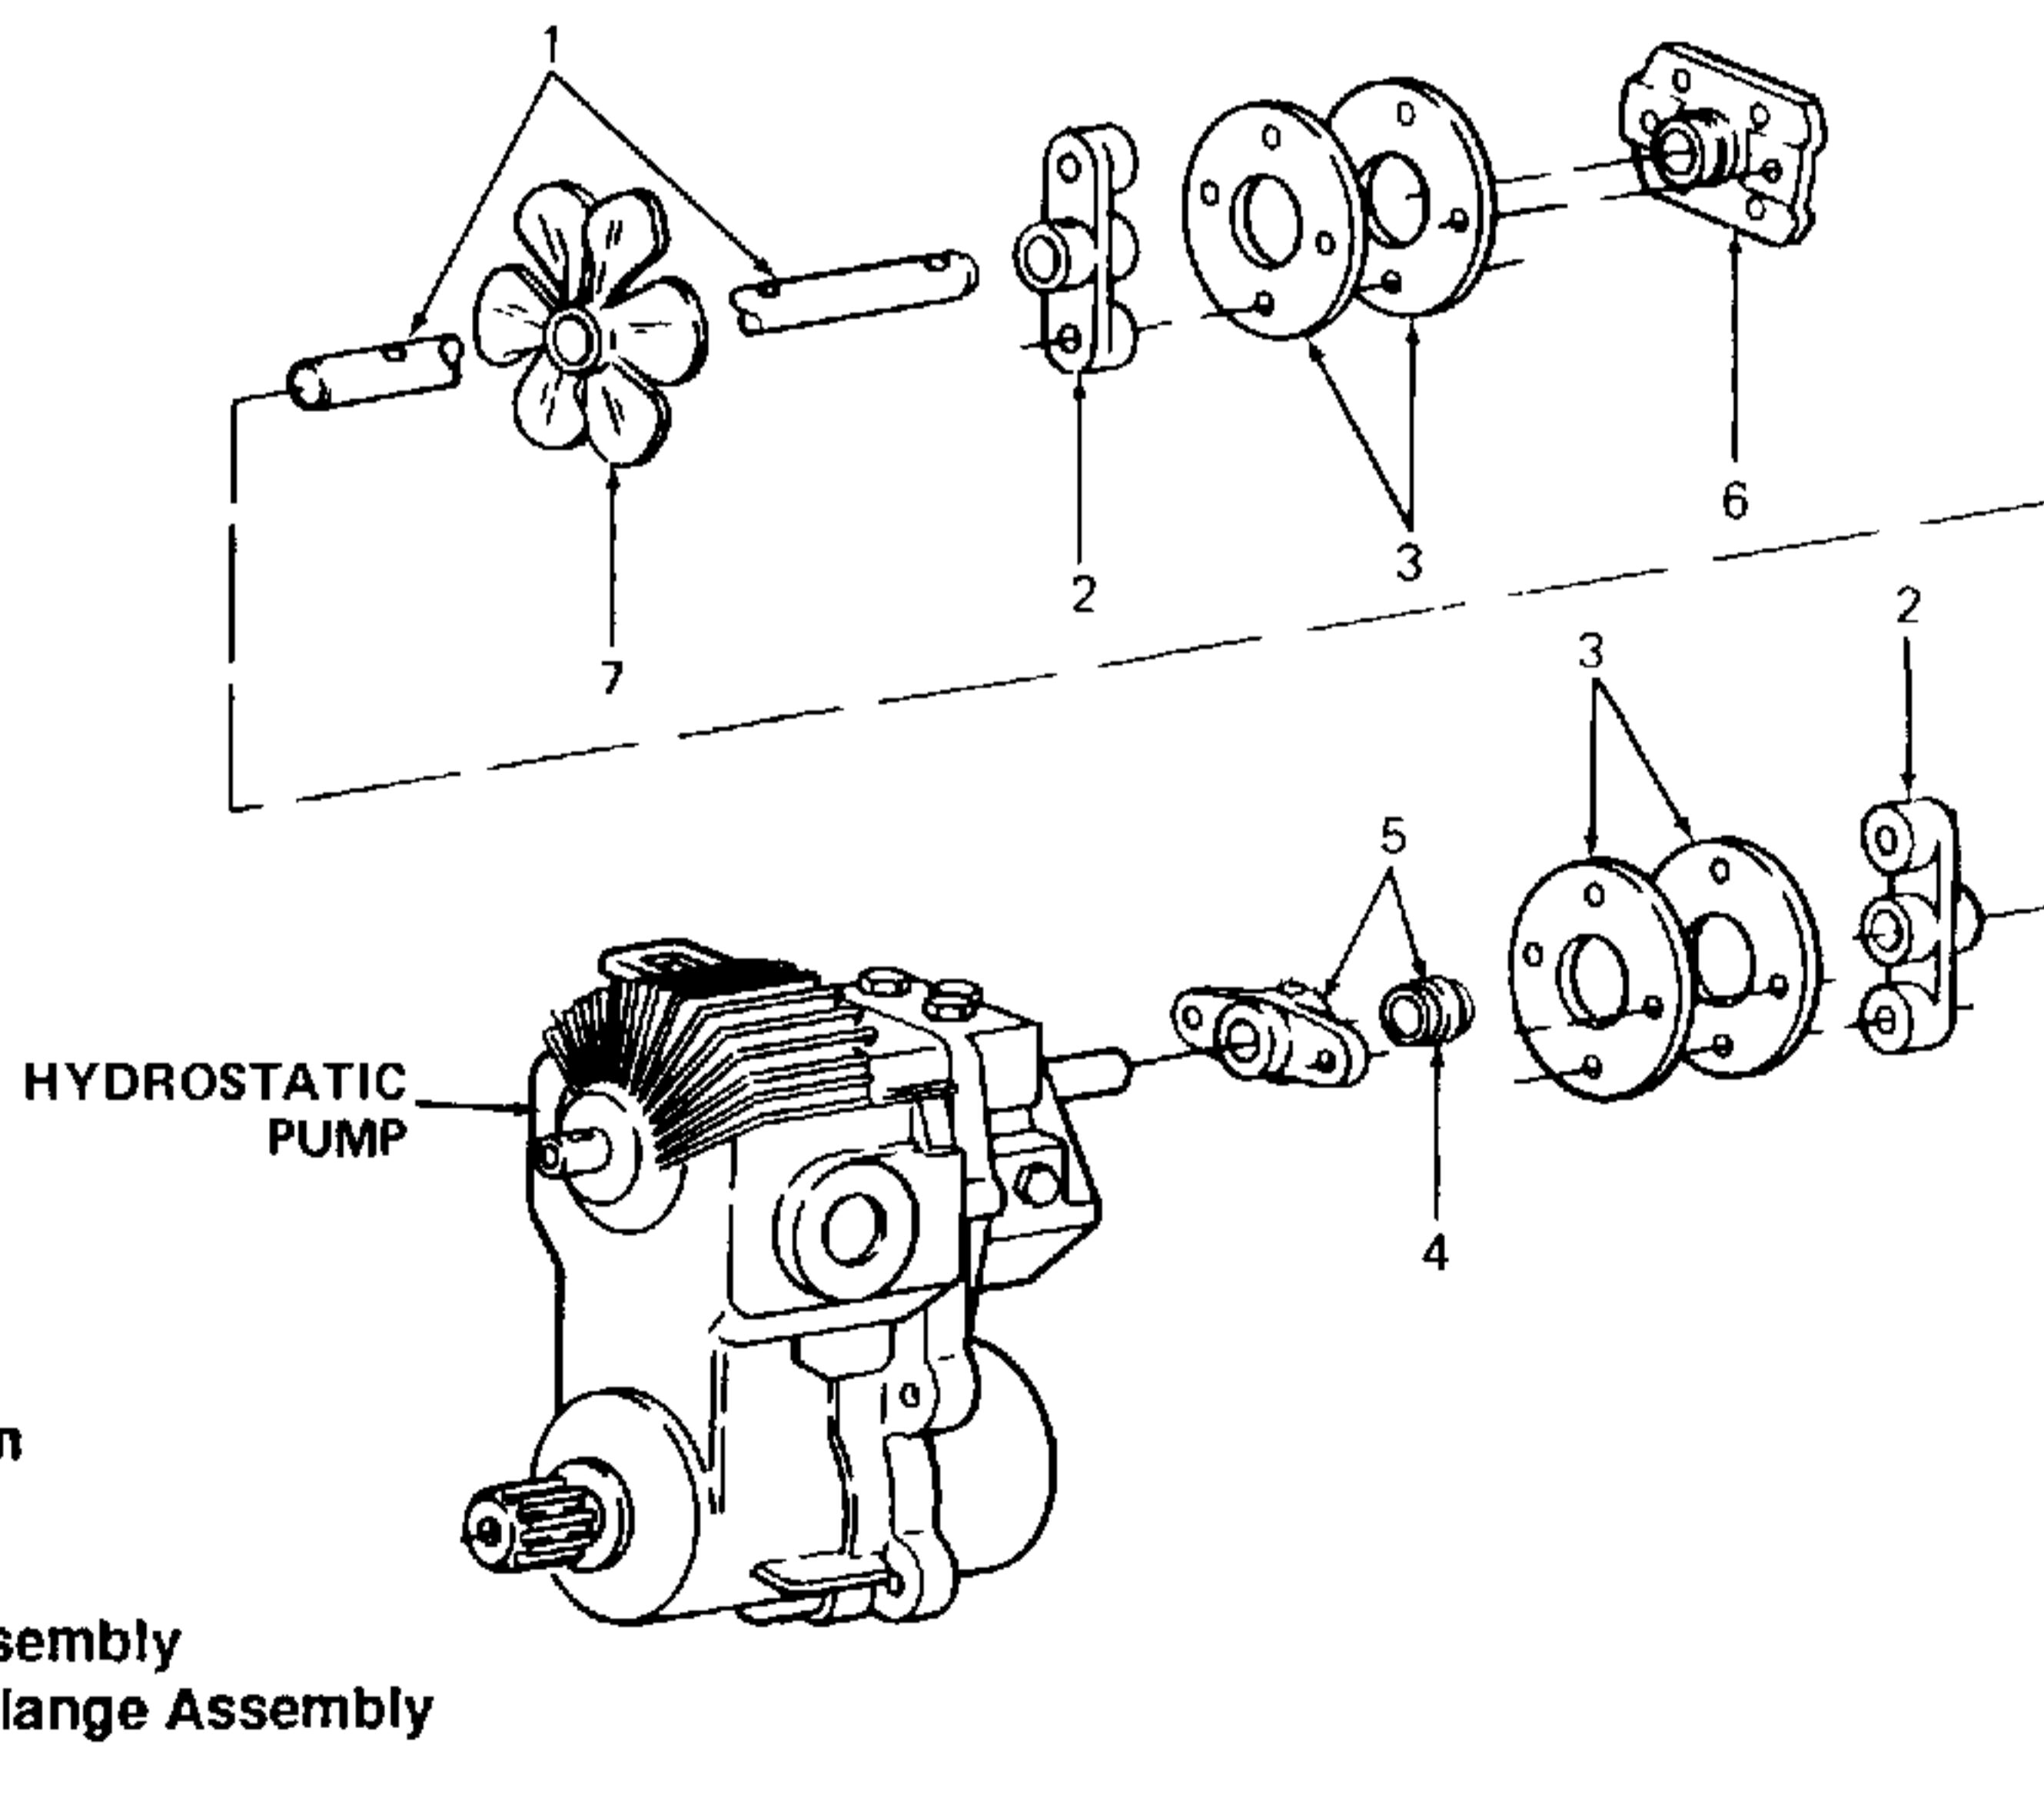

Figure 5-71. Drive Line (Models 1541 and 1860).
3. Remove drive shaft (1, Figure 5-71) as follows:
a. Remove coupling assembly (5) from hydrostatic pump as follows: